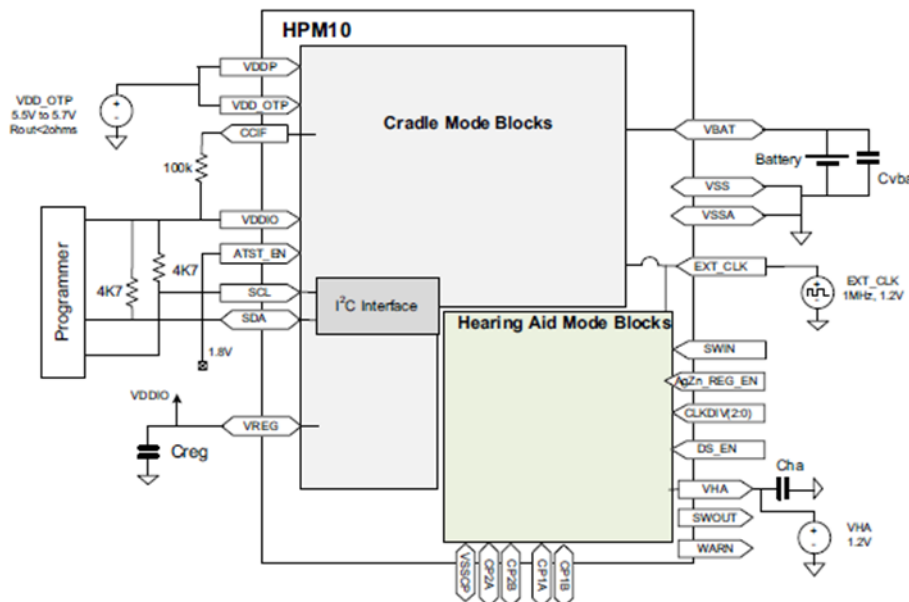

Figure 3. HPM10 Hardware Setup for OTP Evaluation and Burn
- The HPM10 device should be connected as shown in Figure 3 for charge parameter evaluation or OTP burn. This connectivity should already be set up with the jumpers on the fresh HPM10 EVB. Note that VHA is connected to DVREG on the HPM10 EVB instead of the external power source shown.